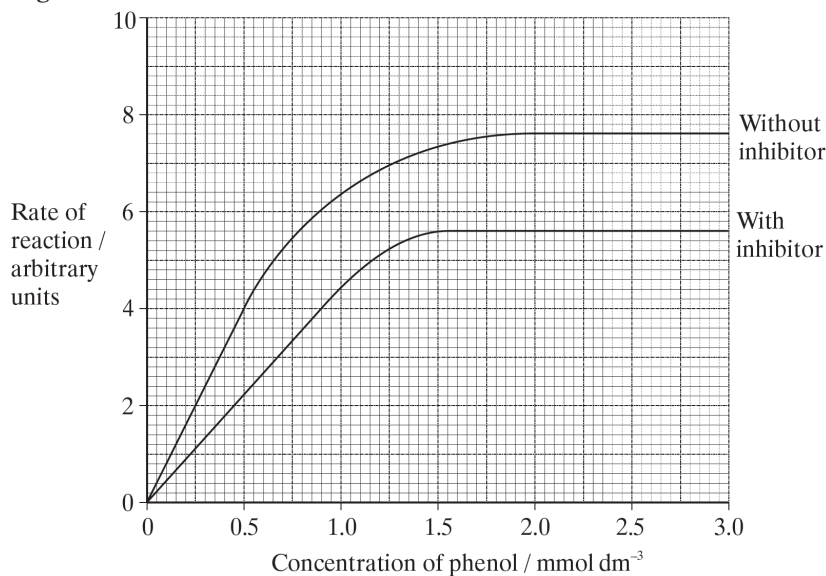

Figure 4
- 4 In an investigation, the rate at which phenol was broken down by the enzyme phenol oxidase was measured in solutions with different concentrations of phenol. The experiment was then repeated with a non-competitive inhibitor added to the phenol solutions. **Figure 4** shows the results.